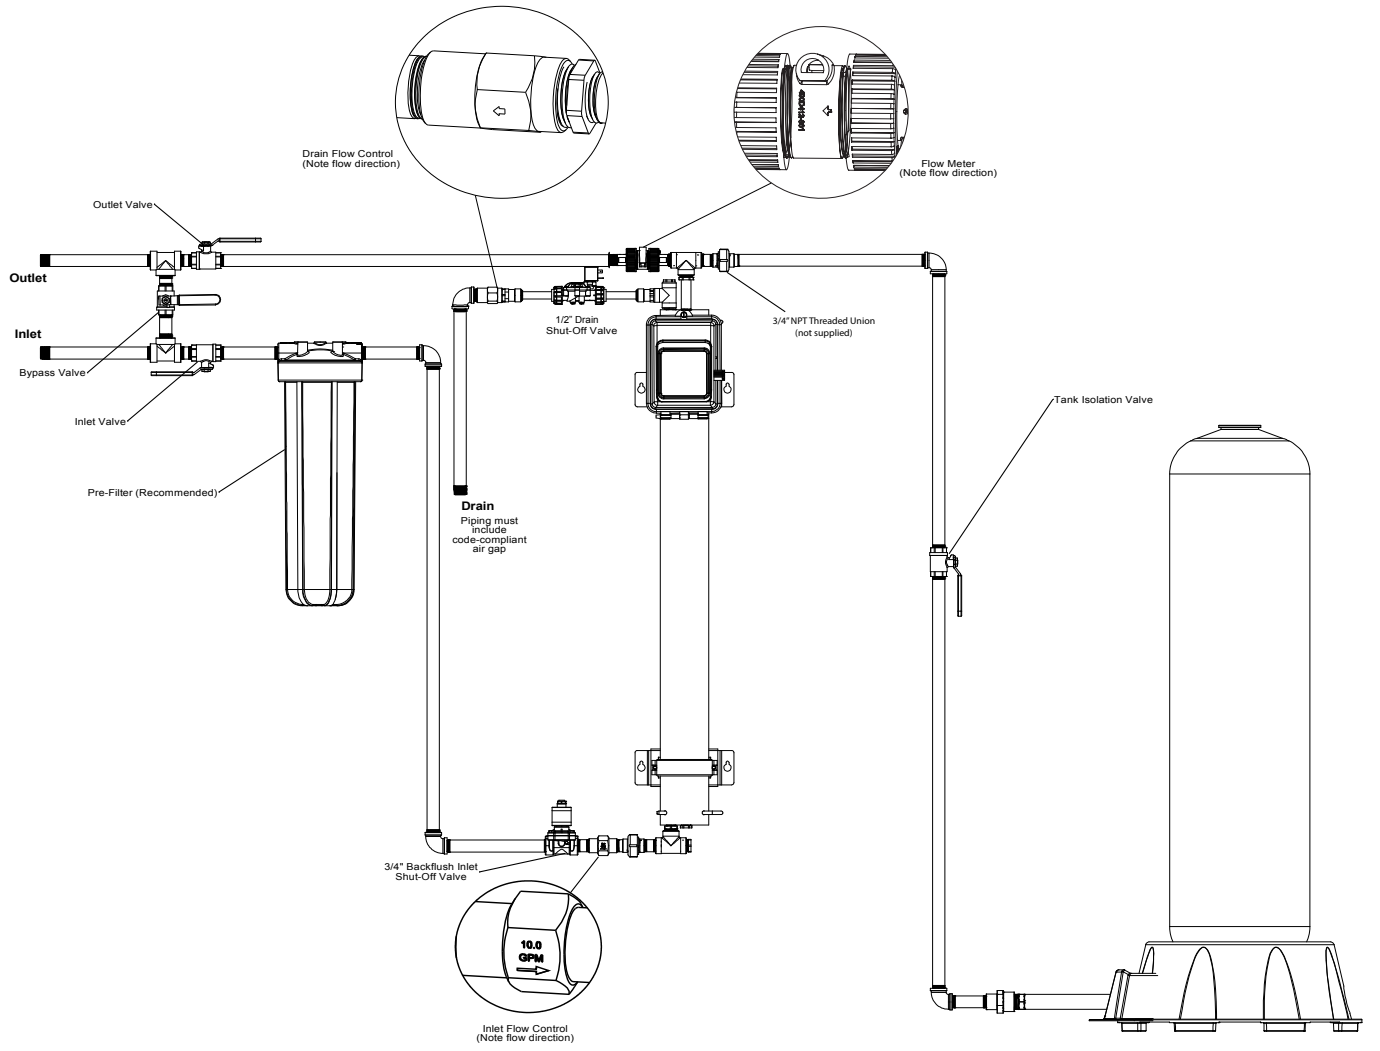

Figure 2 Backflush Surge Tank Installation
Connect the FreshPoint system to the plumbing supply as shown in Figure 2 Backflush Surge Tank Installation. It is recommended that the plumbing include a system bypass for future servicing, etc. A 200 µm sediment pre-filter is recommended. For ease of membrane element replacement, unions are recommended as indicated on Figure 2 Backflush Surge Tank Installation. The backflush tank should be installed on a tee before the flow meter. The backflush tank precharge pressure should be set to 20 psi (1.3 bar / 138 kPa).
2. Install female half of union (Item 3A) onto nipple extending from the flow control. If installing with backflush kit, insert backflush kit inlet solenoid valve between union and flow control (see Figure 2).
NOTE: If installing with the backflush kit, complete the plumbing between the outlet tee and the backflush tank (see Figure 2). The backflush tank pre-charge should be adjusted to 20 psi (1.3 bar / 138 kPa). If installed, the backflush tank isolation valve should be closed.